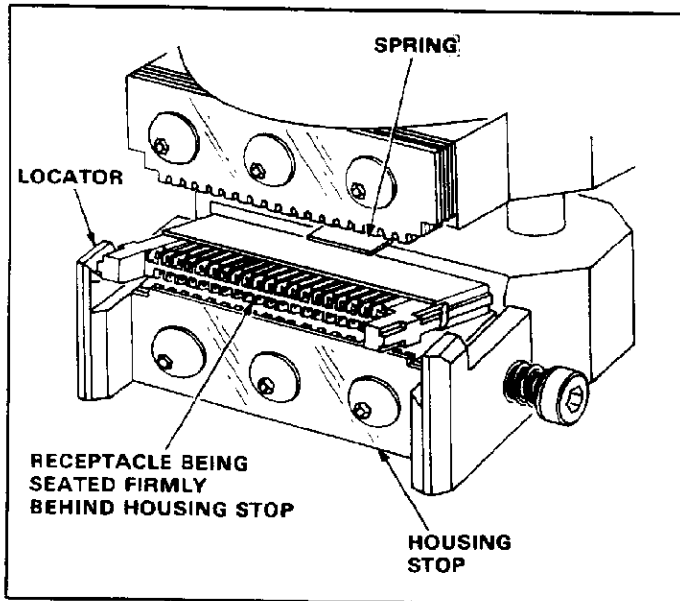

Fig. 4
6. *Locate* a receptacle housing of appropriate size on lower die subassembly: slip mating face of housing under spring and push housing toward applicator, pressing downward (Figure 4). *The spring-loaded locators will spread outward, allowing the housing to seat firmly behind the housing stop.*
1. Refer to Figure 4, and locate housing on lower die as described in Paragraph 3, APPLICATOR SETUP, Step 6.